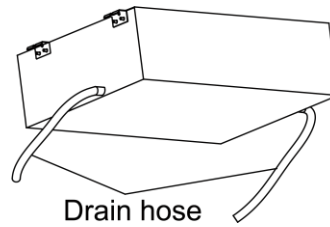

Figure 3-1-11
(5) Use a suitable drain hose, and see Table 3-2-4 for its size.
(6) There is a drain port on both the left and right sides. Select the drain port to match the local conditions. (Figure 3-1-11)
(7) When the unit is shipped from the factory, the drain port is defaulted to be the one on the left side (electric box side); the port on right side has been plugged.